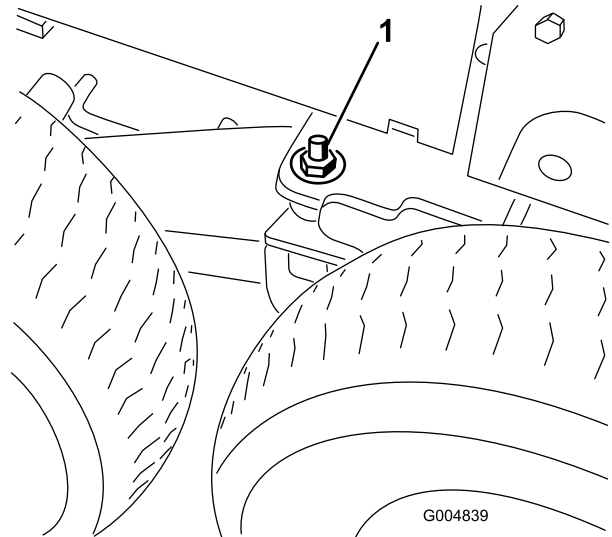

Figure 134
3. Loosen and remove the locknut and flat washer from the bogie pivot weldment (Figure 134).
6. Lower the floor jack until the front wheels support the frame. Install the flat washers (1/2 inch) and locknuts on the bogie pivot stud (Figure 134), and torque to 102 N-m (75 ft-lb).